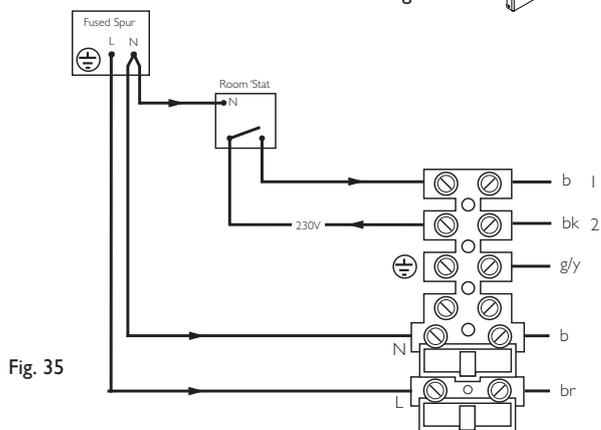

Fig. 35
- Remove the link between terminals 1 & 2. The 230V supply at terminal 2 must be connected to the thermostat. The switched output from the thermostat must be connected to terminal 1. (Figs. 35 & 36). If the room thermostat being used incorporates an anticipator it **MUST** be wired as shown in Figs. 35 & 36.